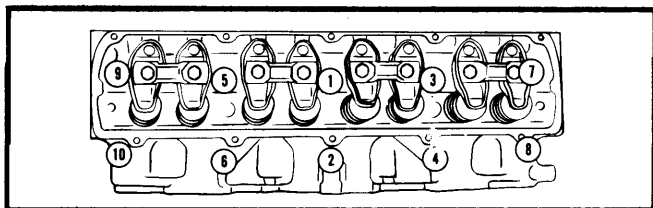

Fig. 2 Cylinder Head Tightening Sequence
3) Clean and dip cylinder head bolts in engine oil and tighten in two steps, following sequence shown in Fig. 2. Install other components previously removed.